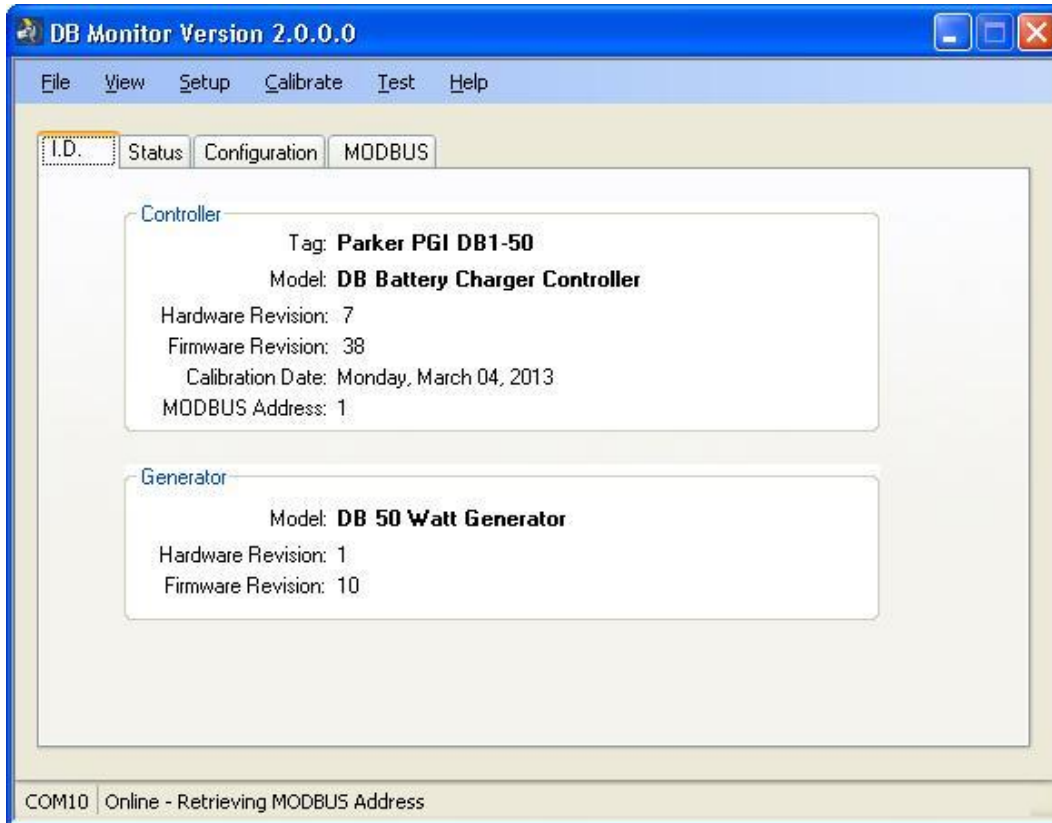

Figure A-18. Unit information
3. Data fields will begin to fill in. See Figure A-18 below.